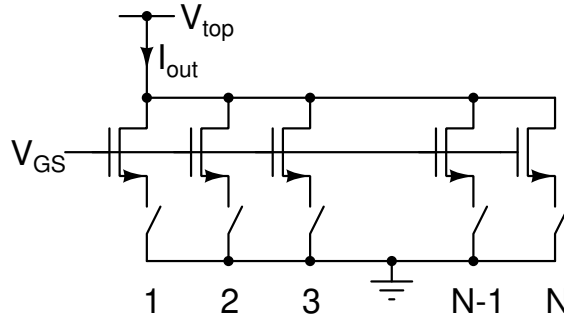

Figure 2.5: Problem 2.5.
2.5. Fig. 2.5 shows N identical MOS transistors controlled by switches. Each transistor carries a nominal current I_o and has an overdrive voltage $V_{GS} - V_T$. The switches are successively turned on. The output current is denoted by $I_{out}[n]$ when the switches 1 to n are turned on. $0 \leq n \leq N$. Determine the following: